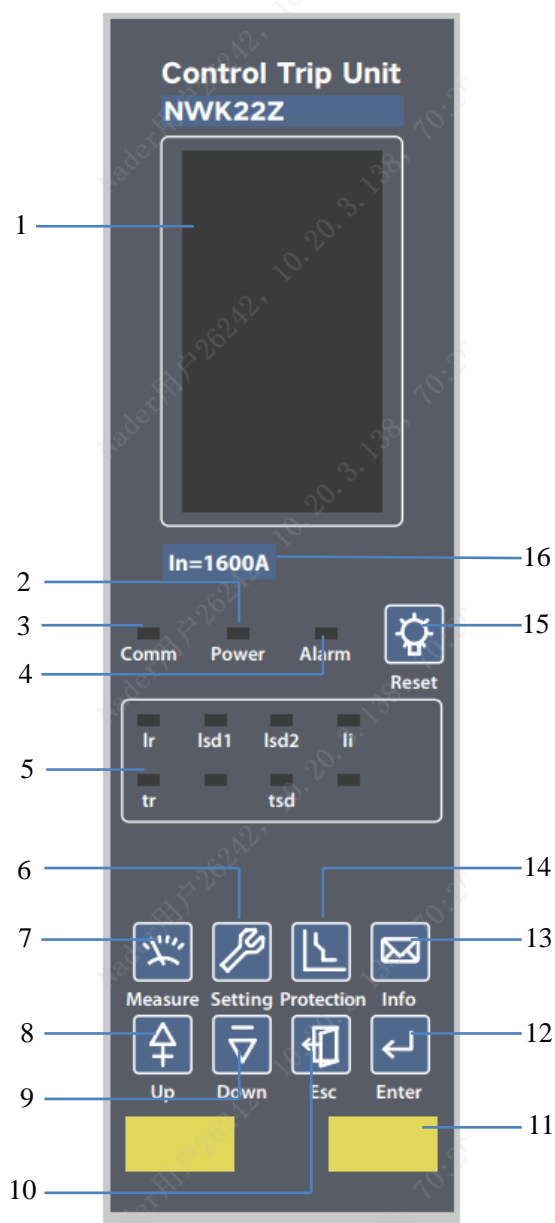

Figure 2
2) NWK22Z type controller, as shown in Figure 2